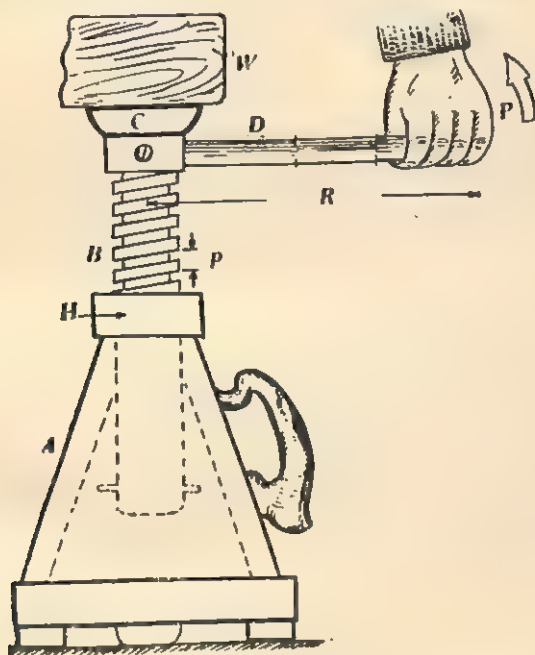

Fig. 1.4. Screw-Jack.
**Construction.** Screw-jack consists of a hollow metal case *A* with a flat and heavy base (see Fig. 1.4). The case *A* has a hole *H*,
**Theory.** Let the load  $W$  on the collar  $C$  (Fig. 1.4) be lifted by applying a force  $P$  (effort force) on the rod  $D$  such that its point of application is at a distance of  $R$  from the axis of the screw. Also let us suppose that the effort  $P$  is acting in a horizontal plane and perpendicular to the length  $R$  of the rod  $D$ . For one complete rotation of the screw by the effort  $P$ , the axial distance moved by the screw is equal to its pitch ' $p$ '. Thus
**Procedure.** (1) Let a student sit on the screw jack and raise himself by pushing the arm  $D$  (see Fig. 1.4) of the screw-jack with one finger.